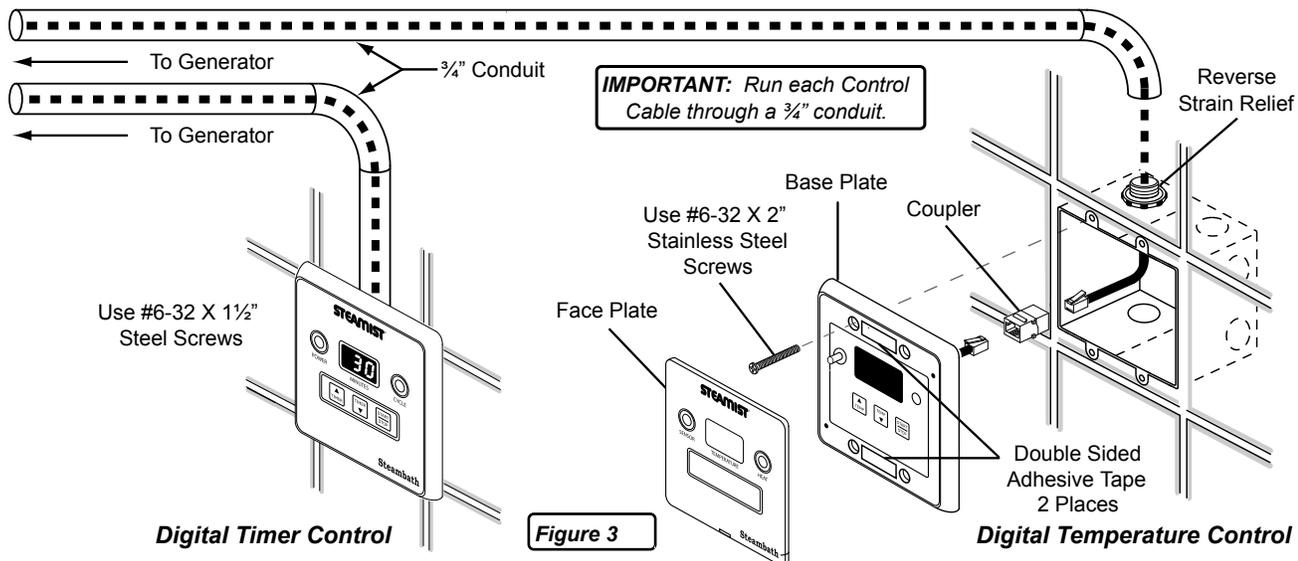

Figure 3
2. Select a mounting location outside the steamroom for the *Digital Timer Control* and inside for the steamroom for the *Digital Temperature Control*. Mount 2 metal, gangable, switch boxes; twinned together (not provided) in these locations (see Figure 3). Do NOT use a 4 x 4 electrical box. The 4 x 4 box requires a larger opening in the wall and is more difficult to cover with the controls.